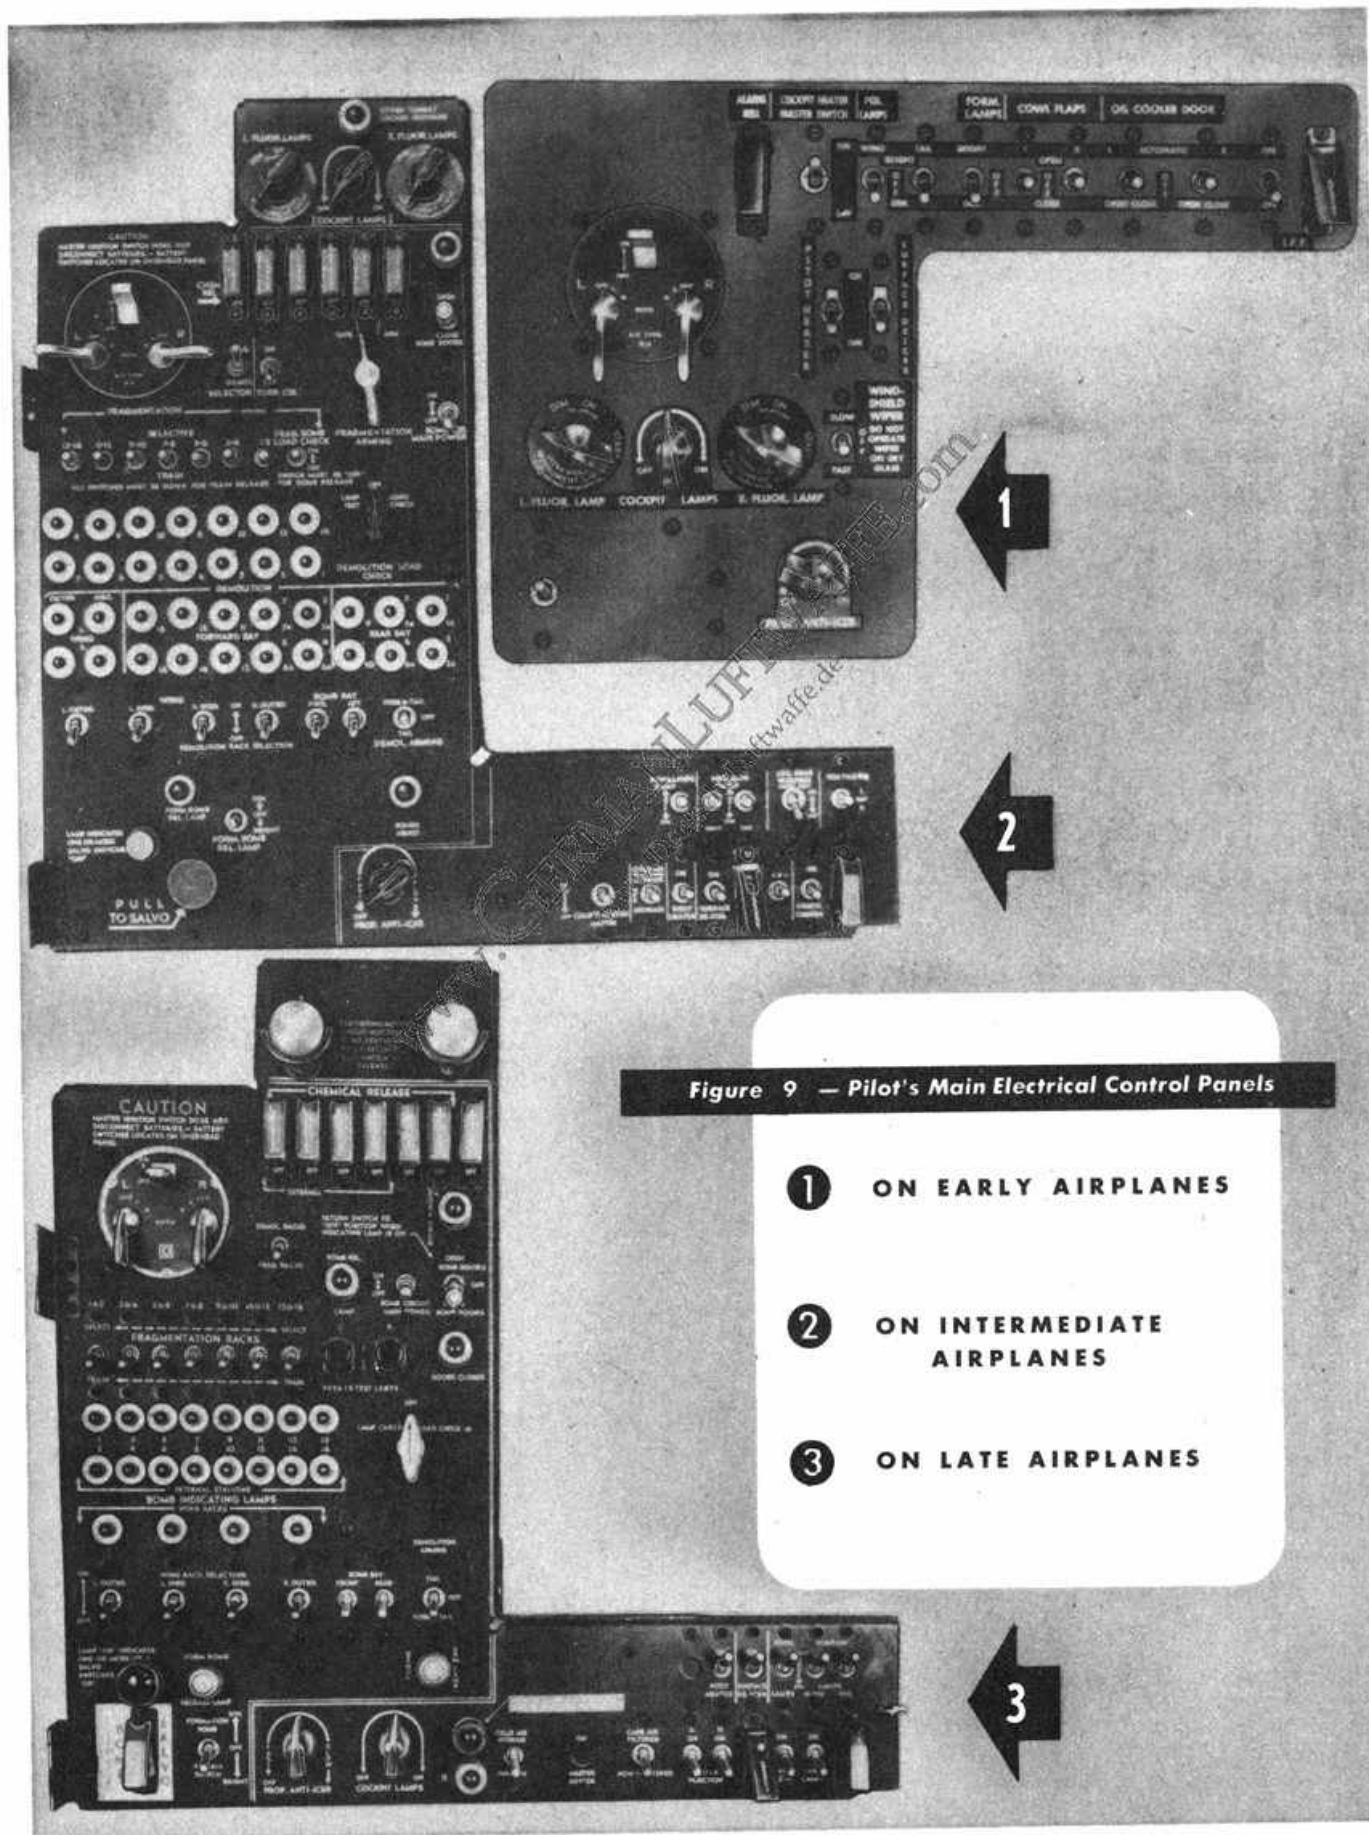

Figure 9 — Pilot's Main Electrical Control Panels
b. OIL COOLER DOOR CONTROLS. — The oil cooler doors are electrically controlled by switches (figure 9) located on the main electrical control panel. On some airplanes the switches are mounted on the forward side of the control pedestal step (2, figure 18). The oil cooler doors will move from one extreme position to the other in 15 to 20 seconds. An oil cooler door position indicator is located on the instrument panel. Late airplanes have automatic oil cooler doors which are thermostatically controlled to maintain constant oil temperature. The switch, located on the control pedestal forward of the footstep (2, figure 18) should be in the "AUTO" position, for automatic temperature control. The doors may be opened or closed at will by holding the spring-loaded switch momentarily in the "OPEN" or "CLOSE" position. When released from "OPEN" or "CLOSE" the switch will return to "OFF" and the doors will remain in the selected position.
The electrically operated cowl flaps will move from one extreme position to the other in five to ten seconds. On some airplanes the switches (3, figure 18) are mounted on the forward side of the control pedestal step, while on other airplanes they are located on the main electrical control panel (figure 9).